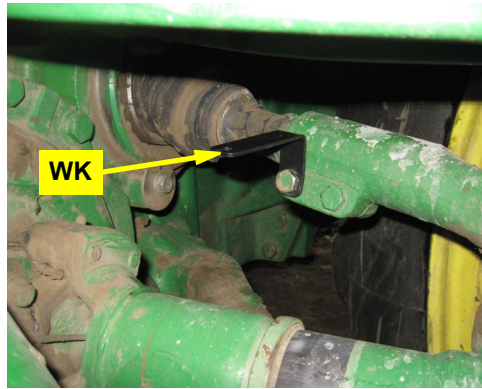

Figure 2d: Installed WAS rod mount
- d. Install the WAS rod mount **WK** on the steering rod inner bolt identified at Figure 2a-ii (Figure 2d).